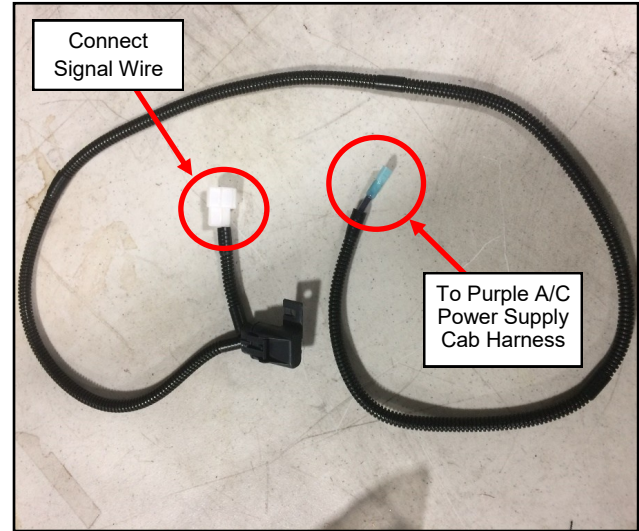

Fig. 4.8 (Alternator Harness)
- 4.8 Locate the Alternator Harness (has fuse holder). See figure 4.8.